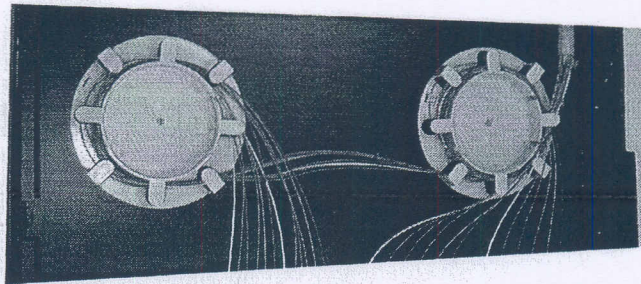

Figure 5. Routing Buffered Fibers in Tray
5. Route the buffered fibers with connectors around the storage drum(s) and fan the fibers to the ganged adapters modules, which have been inserted into the panel (see Figure 5). Utilize the lower storage drums for the lower adapters and the top storage drums for the top row of adapters.
5. Dress slack and spare fibers around the storage drum(s) as shown in Figures 5.